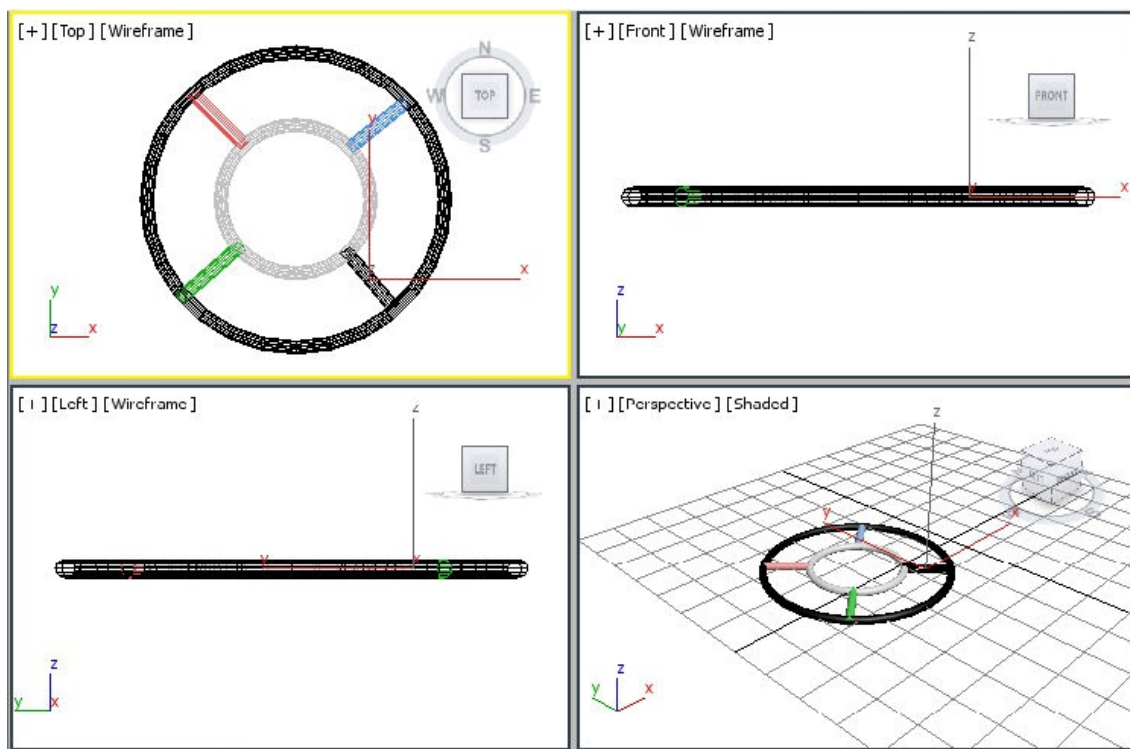

Figure 6-79 The line splines created to join both the circles
12. Activate the Top viewport. Next, create four line splines to join both the circles, as shown in Figure 6-79.